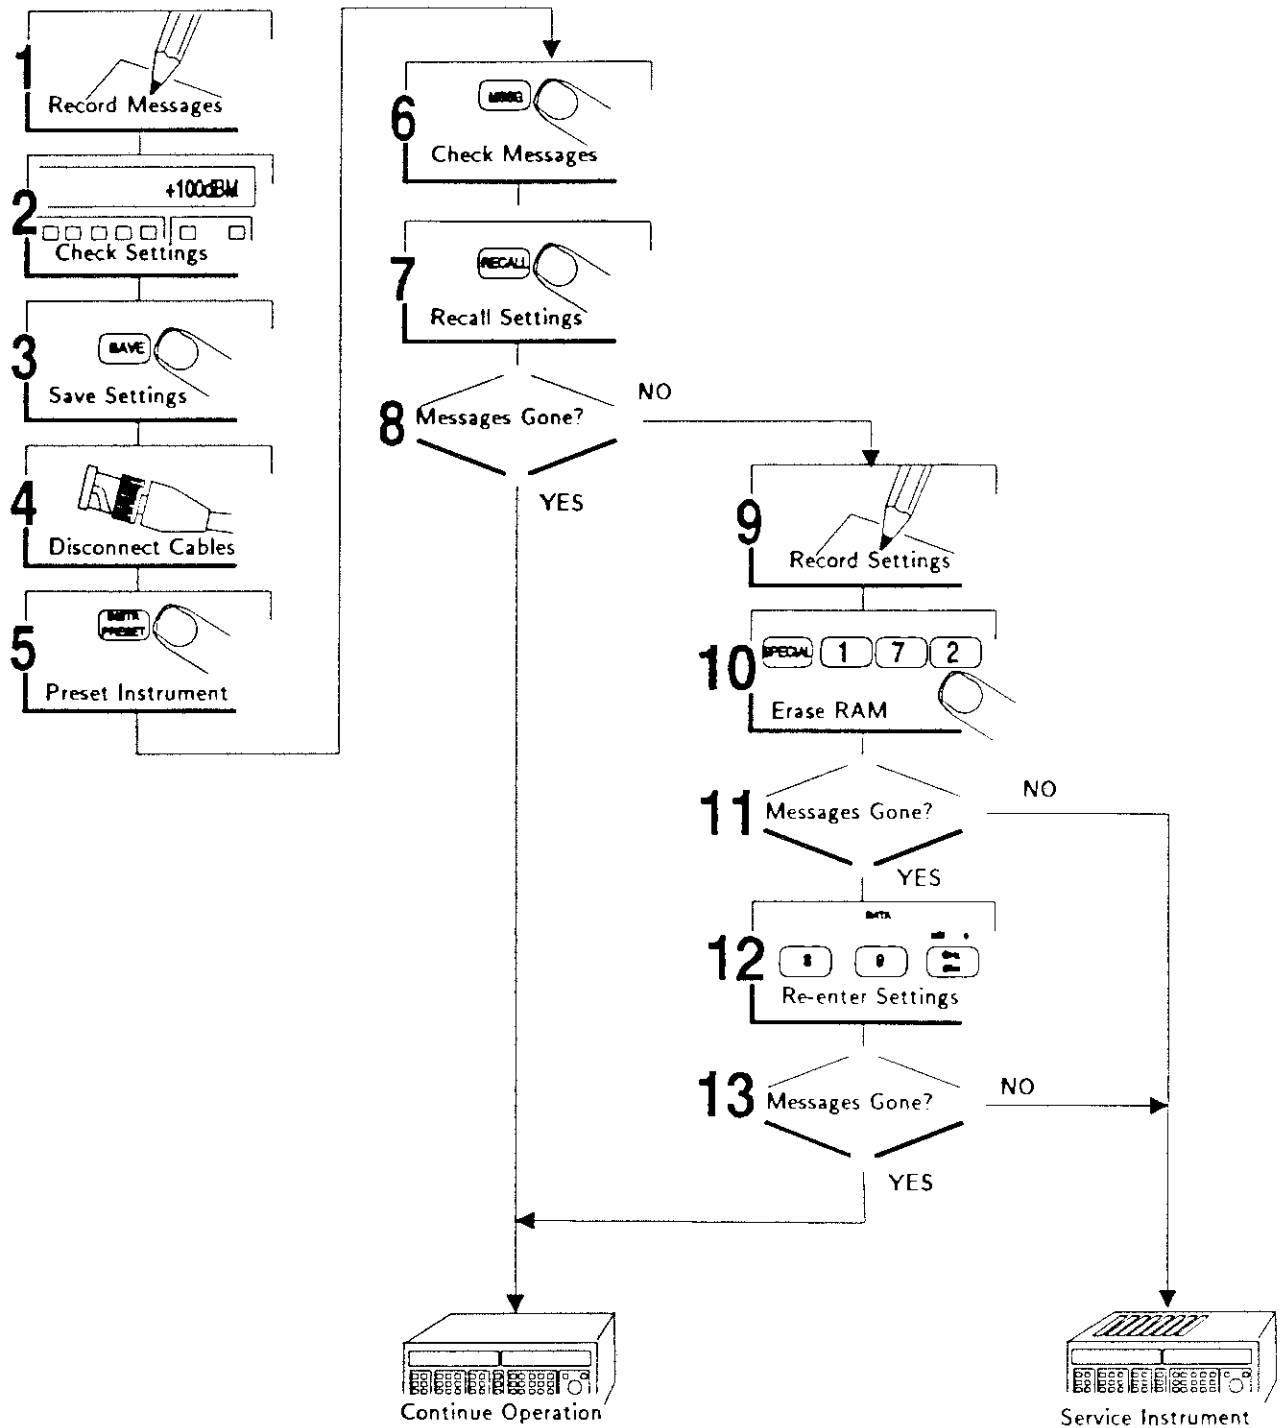

Figure D-1. Corrective Action for Error Messages
Hardware Failure 1	A communications discriminator failure has been detected at power up, or detected as a result of a self-calibration or self-test. Refer to figure D-1 for corrective action.
Hardware Failure 2	A VCO failure has been detected at power up, or detected as a result of a self-calibration or self-test. Refer to figure D-1 for corrective action.
Hardware Failure 3	A Fractional-N failure has been detected at power up, or detected as a result of a self-calibration or self-test. Refer to figure D-1 for corrective action.
Hardware Failure 4	A modulation distribution failure has been detected at power up, or detected as a result of a self-calibration or self-test. Refer to figure D-1 for corrective action.
Hardware Failure 5	An ALC failure has been detected at power up, or detected as a result of a self-calibration or self-test. Refer to figure D-1 for corrective action.
Hardware Failure 6	An attenuator failure has been detected at power up, or detected as a result of a self-calibration or self-test. Refer to figure D-1 for corrective action.
Hardware Failure 7	An audio source failure has been detected at power up, or detected as a result of a self-calibration or self-test. Refer to figure D-1 for corrective action.
Hardware Failure 8	A reference failure has been detected at power up, or detected as a result of a self-calibration or self-test. Refer to figure D-1 for corrective action.
Hardware Failure 9	A doubler failure has been detected at power up, or detected as a result of a self-calibration or self-test. Refer to figure D-1 for corrective action.
Hardware Failure 10	A High Frequency Output Section failure has been detected at power up, or detected as a result of a self-calibration or self-test. Refer to figure D-1 for corrective action.
Hardware Failure 11	A Low Frequency Output Section failure has been detected at power up, or detected as a result of a self-calibration or self-test. Refer to figure D-1 for corrective action.
Hardware Failure 12	A Microwave Extender Automatic-Level-Control (ALC) out-of-lock (OOL) condition occurred. Refer to figure D-1 for corrective action.
Hardware Failure 13	A front panel failure has been detected at power up, or detected as a result of a self-calibration or self-test. Refer to figure D-1 for corrective action.
Hardware Failure 14	A power supply failure has been detected at power up, or detected as a result of a self-calibration or self-test. Refer to figure D-1 for corrective action.
Hardware Failure 15	An I/O board failure has been detected at power up, or detected as a result of a self-calibration or self-test. Refer to figure D-1 for corrective action.
Hardware Failure 16	A controller failure has been detected at power up, or detected as a result of a self-calibration or self-test. Refer to figure D-1 for corrective action.
Hardware Failure 17	A Pulse Modulator failure has been detected at power up, or detected as a result of a self-calibration or self-test. Refer to figure D-1 for corrective action.
Hardware Failure 18	A frequency counter failure has been detected at power up. Refer to figure D-1 for corrective action.
Hardware Failure 21	A communications discriminator out-of-lock (OOL) condition exists. Refer to figure D-1 for corrective action.
Hardware Failure 22	A VCO out-of-lock (OOL) condition exists. Refer to figure D-1 for corrective action.
Hardware Failure 23	A Fractional-N (NF) phase-locked-loop (PLL) out-of-lock (OOL) condition exists. Refer to figure D-1 for corrective action.
Hardware Failure 24	A VCO frequency-locked-loop (FLL) out-of-lock (OOL) condition exists. Refer to figure D-1 for corrective action.
Hardware Failure 25	A VCO phase-locked-loop (PLL) out-of-lock (OOL) condition exists. Refer to figure D-1 for corrective action.
Hardware Failure 26	A fast controller failure has been detected at power up, or detected as a result of a self-calibration or self-test. Refer to figure D-1 for corrective action.
Hardware Failure 27	An audio source out-of-lock (OOL) condition exists. Refer to figure D-1 for corrective action.
Hardware Failure 28	A reference out-of-lock (OOL) condition exists. Refer to figure D-1 for corrective action.
Hardware Failure 30	A High Frequency Output Section Automatic-Level-Control (ALC) out-of-lock (OOL) condition occurred. Refer to figure D-1 for corrective action.
Hardware Failure 31	A ROM failure has been detected at power up, or detected as a result of a self-calibration or self-test. Refer to figure D-1 for corrective action.
Hardware Failure 32	A ROM failure has been detected at power up, or detected as a result of a self-calibration or self-test. Refer to figure D-1 for corrective action.
Hardware Failure 33	A ROM failure has been detected at power up, or detected as a result of a self-calibration or self-test. Refer to figure D-1 for corrective action.